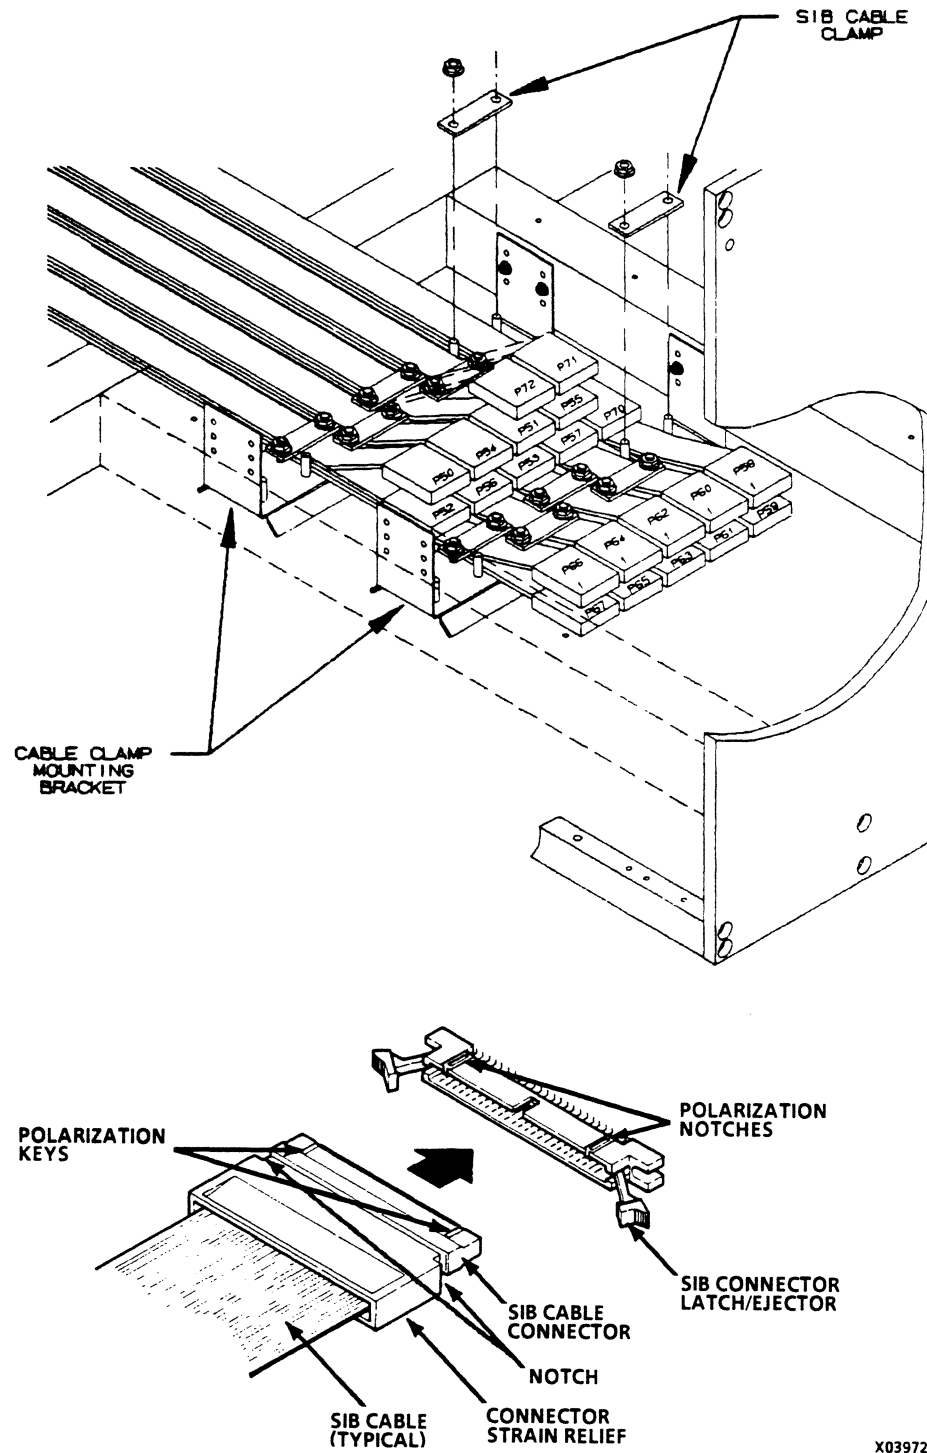

Figure 2-21. SIB Cable Clamps and Mounting Brackets
- ___ 1. Remove cable clamps (figure 2-21) from SIB cables on bottom of CP-0 and CP-1 (if present).